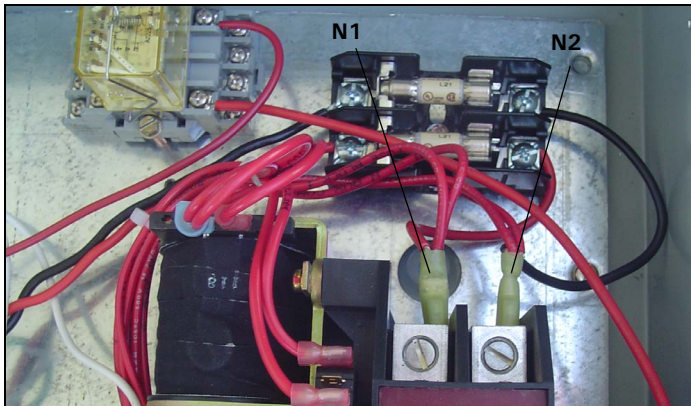

Figure 61. Connection Points at the TVSS Fuse Block and Utility Lugs.
Step 15: Using the wires cut from the red and black TVSS wires in Step 7 (if long enough), or 600 V 14 AWG wire, make two (2) wire leads that will run from the TVSS fuse block to the male spade connectors at the utility lugs on the contactor.
Step 16: Remove the wiring harness connections at the male flag terminal at the N-1 utility lug. Remove the crimp on female flag connector. Strip 0.25 in. (6.35 mm) of insulation from the end of the TVSS wire and the N-1 harness wires. Using the new crimp-on female flag connector supplied, connect the N-1 harness wires with one of the TVSS leads (see Figure 61).